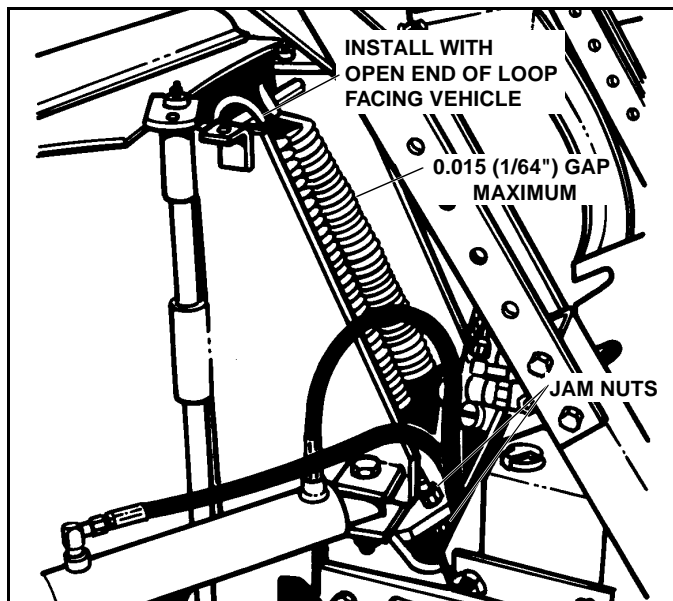

Figure 2-3
3. Check to make sure that the Spring is installed as illustrated with open end of top loop facing vehicle. (See Figure 2-3)
4. Using a 15/16" socket wrench through the holes in the Bottom Plate of the Main Frame, loosen the two (2) 5/8" Nuts on the Trip Spring Eyebolts. (See Figure 2-3)